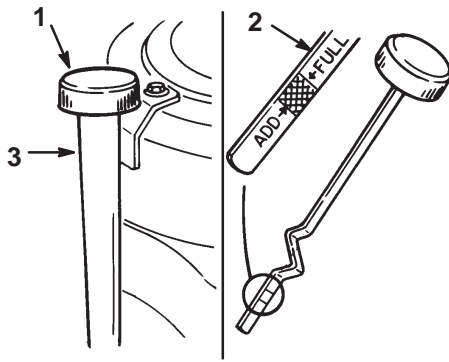

Figure 24
5. Slowly pour approximately 80% of the specified oil, page 24, into the filler tube (Fig. 24). Now check the oil level; refer to Checking Oil Level, page 24. Slowly add additional oil to bring to "FULL" mark on dipstick.